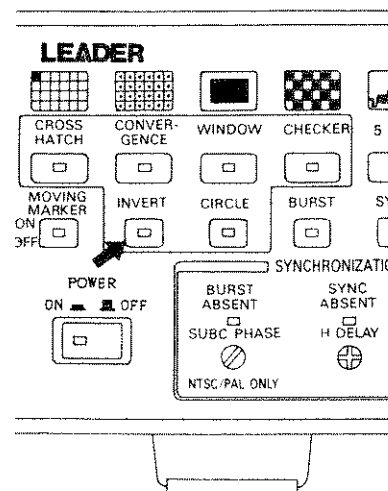

Figure 4.4
4.2.3 Black-and-White Inversion of Crosshatch, Convergence, Window, and Checker Patterns (See Figure 4.4)